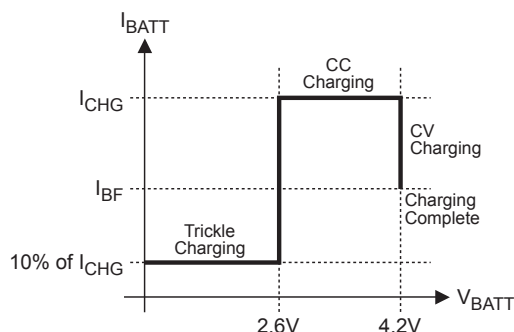
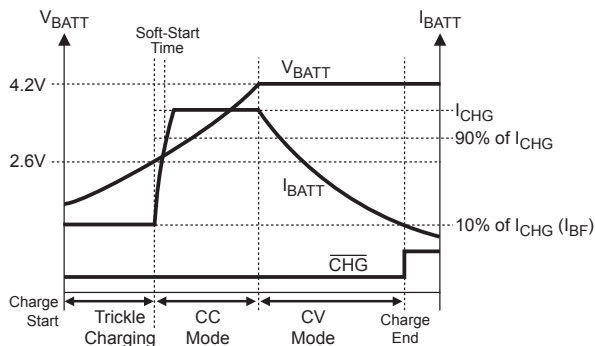

Figure 2—Typical Charging Profile
Figure 3—Typical Charging Procedure
Figure 2 below shows the typical charging profile for the MP26028. Figure 3 shows the typical charging procedure. For a fully depleted battery with a terminal voltage lower than 2.6V, the MP26028 will start with the trickle charge (preconditioning) at 10% of the programmed full charge current. After the battery voltage reaches 2.6V, the charger begins charging at the constant current of the programmed value (I_{CHG}). This is referred to as Constant Current (CC) mode. Once the battery voltage reaches 4.2V, the charger will operate in the constant voltage (CV) mode until the battery is fully charged. The charge current drops during CV mode, and the battery full indication is set when the charge current in the CV mode is reduced to the programmed full battery current (I_{BF}).